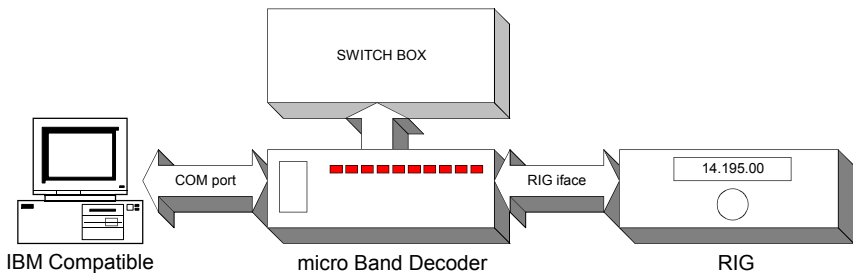

Figure 1
Still, a PC can be connected to the decoder. This connection is used to reconfigure the decoder to change its behavior or to change the type of connected RIG, or to have the RIG connected to PC for contesting or automatisisation of hamshack. The basic interconnect is on Figure 1.
Figure 1 illustrates the basic function of decoder. After powering on, the decoder attempts to communicate with the RIG. If it fails, it switches to the last used band. In case of success, the decoder traces all changes in the RIGs frequency and activates its outputs accordingly. The decoder operates in this mode until it receives any data from the PC.
4. plug on the RELAY BOARD onto the header in the position shown on the fig1.